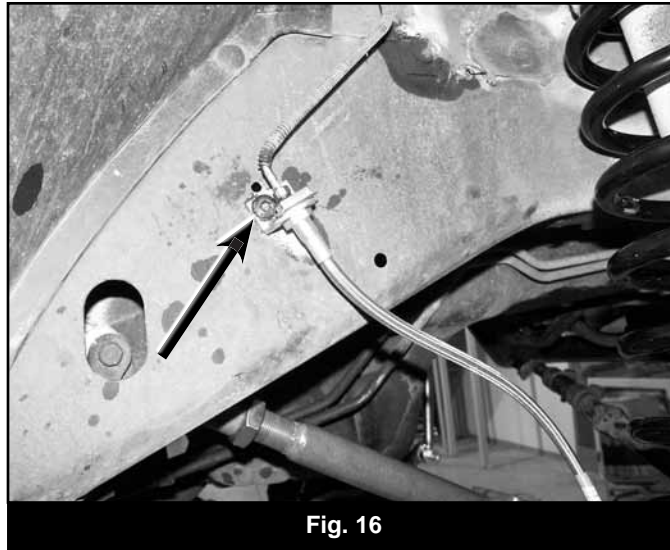

Fig. 16
43. Install BDS front brake line (22510) by attaching upper portion first. Tighten securely (Fig 16).